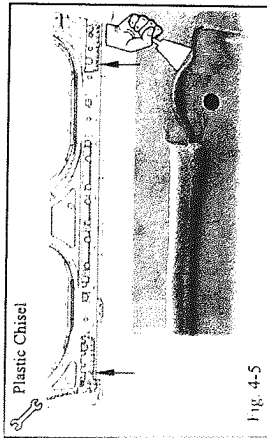

Fig. 4-5
- (h) Check for weld sealant at the front and rear mounting locations. If there is sealant in proximity of the mounting holes, use a plastic chisel to scrape it off as shown in (Fig. 4-5).